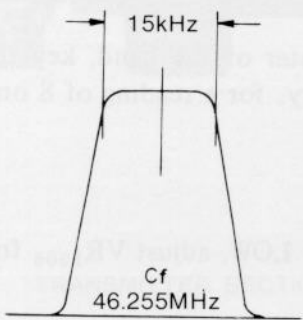

Figure 1
1. Connect the output of the sweep generator to the gate of Q_{1003} , and the input to the collector of Q_{1006} . Set the sweep generator frequency to 46.255 MHz and adjust $T_{1001} - T_{1003}$ to obtain the passband of Figure 1.